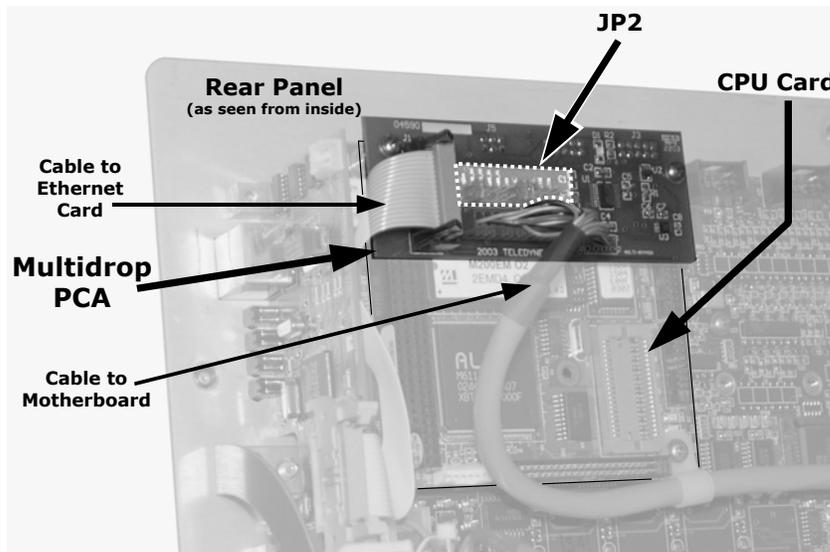

Figure 6-12: Location of JP2 on RS232-Multidrop PCA (option 62)
2. Remove the top cover (see Section 3.1) of the analyzer and locate JP2 on the multidrop PCA (see Figure 6-12)